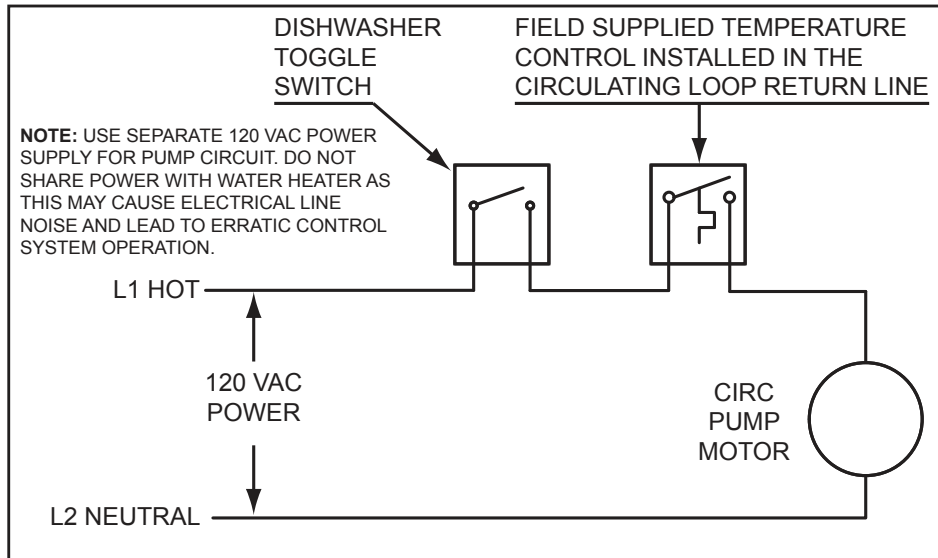

Figure 71. Circulating Pump Wiring Diagram - Dishwasher Loop Toggle Switch
- 7. If a pump is being installed in a recirculation loop between the water heater and a commercial dishwasher wire according to *Figure 71* (page 72).
7. If a pump is being installed in a recirculation loop between the water heater and a commercial dishwasher, wire according to *Figure 71* (page 72).
- 7. If a pump is being installed in a recirculation loop between the water heater and a commercial dishwasher wire according to *Figure 71* (page 72)..